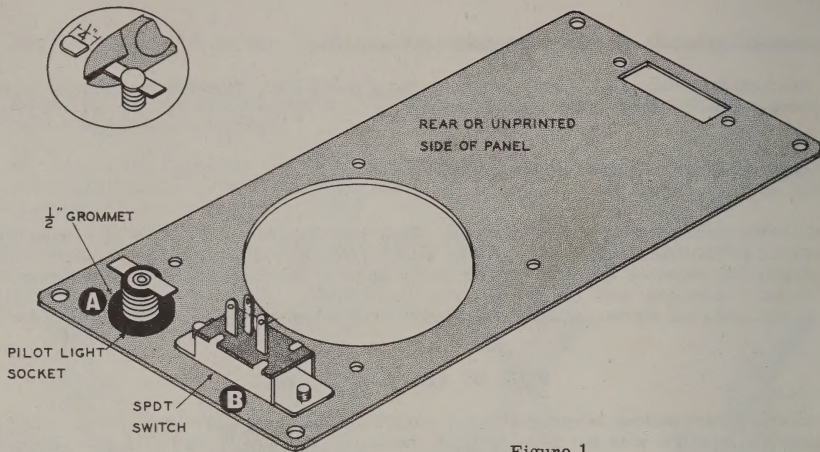

Figure 1
- (X) Mount the 1/2" rubber grommet in hole A. Refer to Figure 1.
- (X) Clip 1/4" off each terminal lug on the pilot light socket, as shown in the same figure.
- (X) Moisten the inside edge of the 1/2" grommet with soapy water, or a similar slippery substance. From the rear side of the panel, work the pilot light socket through the grommet until it emerges flush with the grommet on the front side of the panel. Rotate the socket until the terminals face as shown in Figure 1.
- (X) Mount the SPDT (Single Pole Double Throw) slide switch in hole B with the center terminal of the switch facing toward the large speaker hole. A nut and lockwasher is not necessary. Use two 6-32 x 1/4" BHMS (Binder Head Machine Screws). See Figure 1.